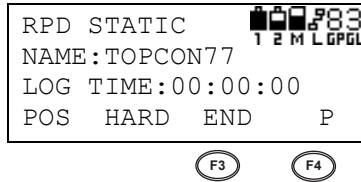

Figure 3-42. Rapid Static Observation Menu Selection
12. Press **F3** (END) to end the survey (Figure 3-42).